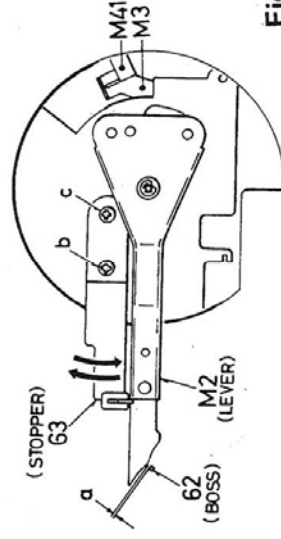

Fig. 2
2. Adjust so that the shortest distance "a" between the boss (62) fitted to the turntable and the lever (M2) becomes 0.2 – 0.5 mm.
NOTE: This adjustment is impossible to do unless a part of the turntable is chipped off and such a jig by which the boss is visible is prepared. Adjust by tightening the stopper (63) set screw (b), loosening the (c) a little, and moving the stopper. (Fig. 2)